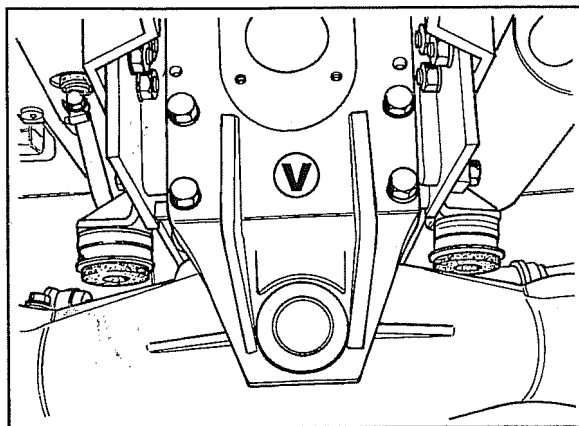

Fig. 77
11. Remove front axle mount **V** Fig. 77, and slide the axle forward so that you can separate it from the tractor.